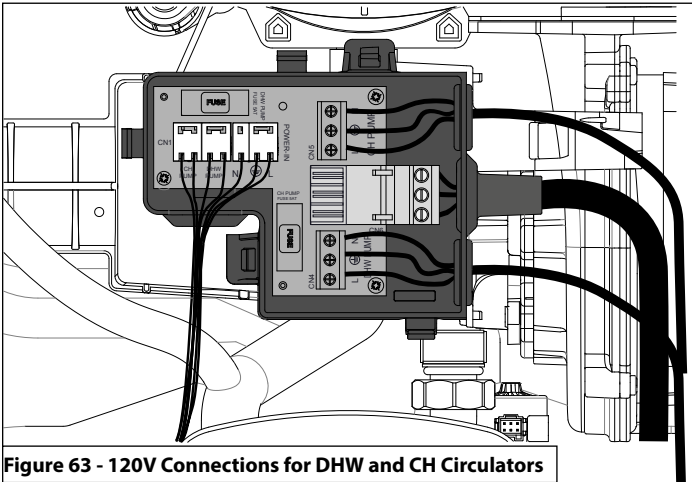

Figure 63 - 120V Connections for DHW and CH Circulators
6. Connect the cable on the connector CN4 (DHW pump) and CN5 (CH pump). See Electrical Wiring Diagram, Figure 63.